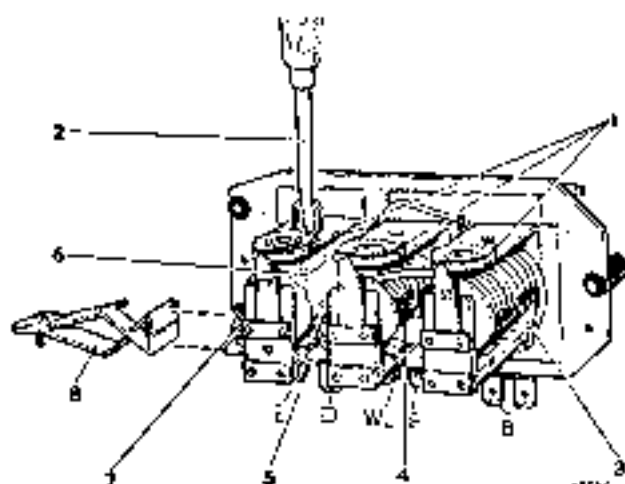

Fig. N.7
For adjustment purposes toothed cams are carried by the front limb of each magnet frame to enable voltage and current settings to be made with a special tool (see Fig. N 7).
Stop the engine and remove the control box cover. Restart the engine and run the dynamo at 3,000 r.p.m. Using a suitable tool (see Fig. N.7), turn the voltage adjustment cam until the correct setting is obtained. Turn the tool clockwise to raise the setting or anticlockwise to lower it. Check the setting by stopping the engine and then again raising the generator speed to 3,000 r.p.m. Restore the original connections and refit the cover.
13.3 volts. If the cut-in occurs outside these limits an adjustment must be made. In this event proceed as follows. Remove the control box cover. Using a suitable tool (see Fig. N.7), turn the cut-out relay adjustment cam until the correct setting is obtained. Turn the tool clockwise to raise the setting or anti-clockwise to lower it. Stop the engine, restore the original connections, and refit the cover.
The dynamo must be made to develop its maximum rated output whatever the state of charge of the battery might be at the time of setting. The voltage regulator must therefore be rendered inoperative, and to do this the bulldog clip shown in Fig. N.7 is used to keep the voltage regulator contacts together.
Using a suitable tool (see Fig. N.7), turn the current adjustment cam until the correct setting is obtained. Turn the tool clockwise to raise the setting or anti-clockwise to lower it. Stop the engine, restore the original connections, and refit the control box cover.
Disconnect the battery. Using a suitable tool (see Fig. N.7), turn the adjustment cam of the regulator being adjusted to the point giving minimum lift to the armature tensioning spring (by turning the tool to the fullest extent anti-clockwise). Slacken the appropriate contact locking nut and unscrew the contact. Insert a feeler gauge of .056 in. (1.42 mm.) thickness between the armature and the regulator head as far back as the two rivet heads on the underside of the armature. With the gauge in position, press squarely down on the armature, and screw in the contact until it just touches the armature contact. Tighten the locknut and withdraw the gauge. Repeat this procedure on the remaining regulator.